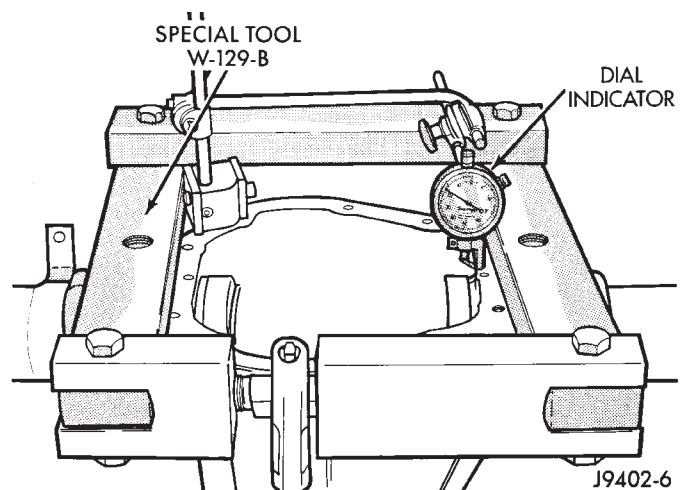

Fig. 40 Spread Differential Housing
(1) Position Spreader W-129-B with the tool dowel pins seated in the locating holes (Fig. 40). Install the holddown clamps and tighten the tool turnbuckle finger-tight.
(2) Install a pilot stud at the left side of the differential housing. Attach Dial Indicator to housing pilot stud. Load the indicator plunger against the opposite side of the housing (Fig. 40) and zero the indicator.
(3) Separate the housing enough to install the case in the housing. Measure the distance with the dial indicator (Fig. 40).
(4) Remove the dial indicator.
(5) Install differential and outboard shim/spacer (selected thickness) in housing.